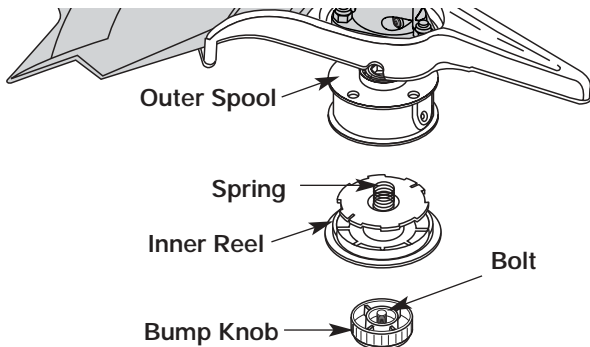

Fig. 24
1. Hold the outer spool with one hand and unscrew the Bump Knob clockwise (Fig. 24). Inspect the bolt inside the bump knob to make sure it moves freely. Replace the bump knob if damaged.
2. Remove the inner reel from the outer spool (Fig. 24).
3. Remove spring from the inner reel (Fig. 24).
1. Hold the outer spool with one hand and unscrew the bump knob clockwise (Fig. 24). Inspect the bolt inside the bump knob to make sure it moves freely. Replace the bump knob if damaged.
2. Remove the old inner reel from the outer spool (Fig. 24).
3. Remove the spring from the old inner reel (Fig. 24).